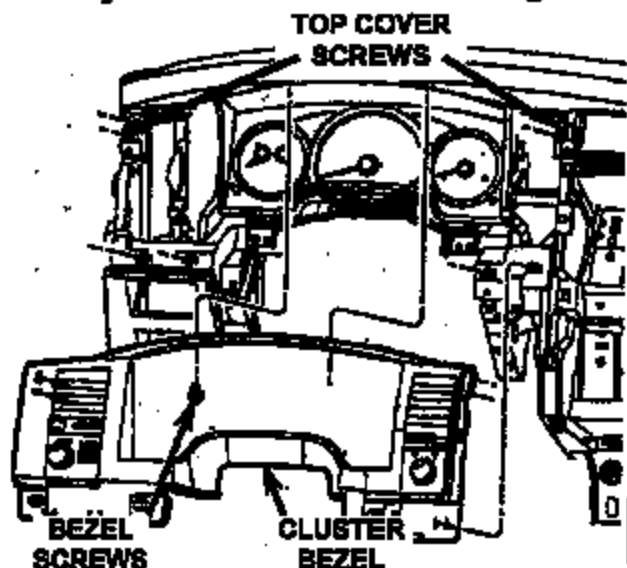

Figure 3
6. Remove the two (2) cluster bezel screws (Figure 3).
7. Using a trim stick, separate the cluster bezel from the instrument panel (Figure 3).
9. Remove the two (2) I/P top cover screws (one at each end of the cluster assembly) (Figure 3) and loosen the top cover screw located under the left I/P end cap.
25. Install the two (2) I/P top cover screws (Figure 3) and tighten the top cover screw on the left end of the I/P. Install the left I/P end cap.
27. Install the cluster bezel (Figure 3).
28. Install the two (2) cluster bezel screws (Figure 3).